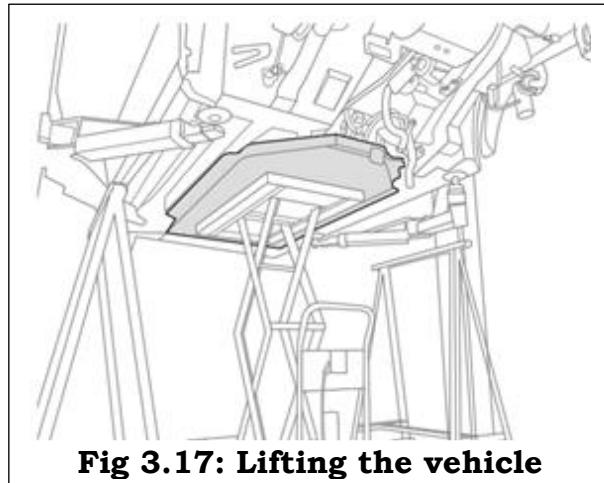

Fig 3.17: Lifting the vehicle
2. lift the vehicle. Lifting and jacking of vehicle as shown in Fig. 3.17.